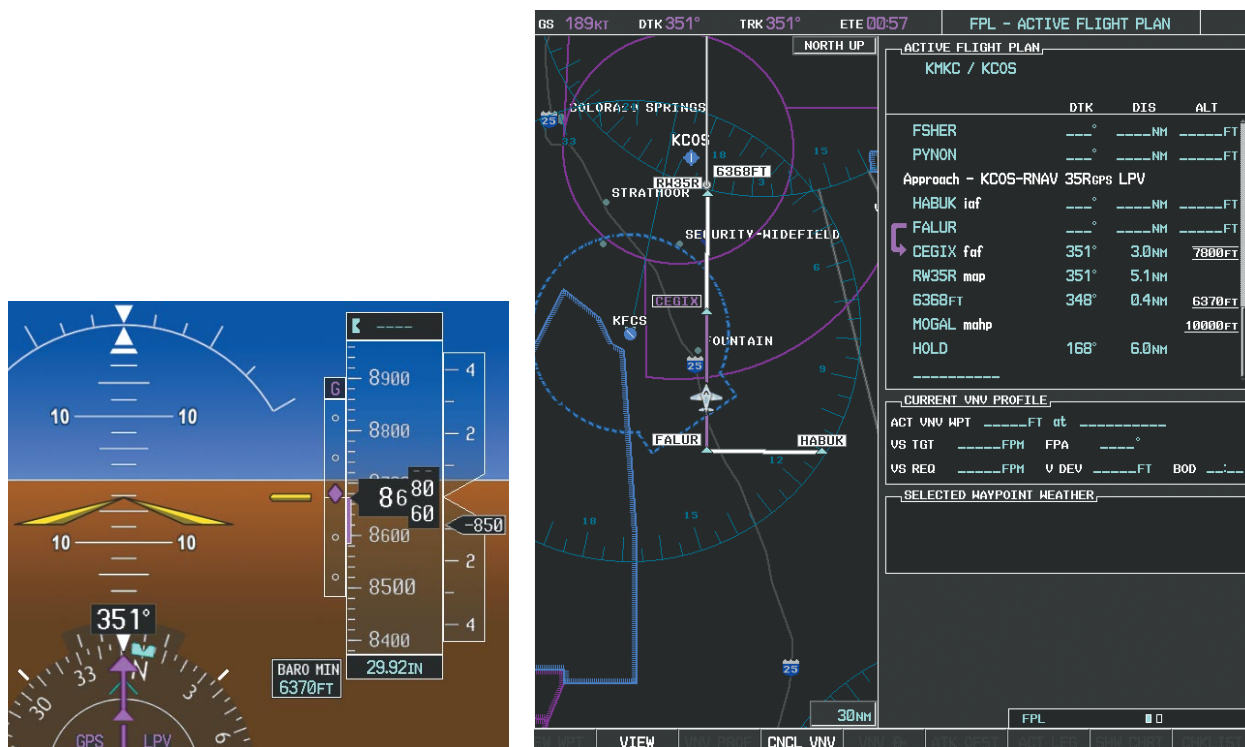

Figure 5-142 Descending to the FAF
- 23) After crossing FALUR the next waypoint is the FAF. The flight phase changes to LPV on the HSI indicating the current phase of flight is in Approach Mode and the approach type is LPV. CDI scaling changes accordingly and is used much like a localizer when flying an ILS approach. The RVSI is no longer displayed and the VDI changes to the Glidepath Indicator (as shown in Figure 5-142) when the final approach course becomes active.
The descent continues through the FAF (CEGIX) using the Glidepath Indicator, as one would use a glideslope indicator, to obtain an altitude "AT" 7,800 feet at the FAF. Note the altitude restriction lines over and under (At) the altitude in the 'ALT' field in Figure 5-142.